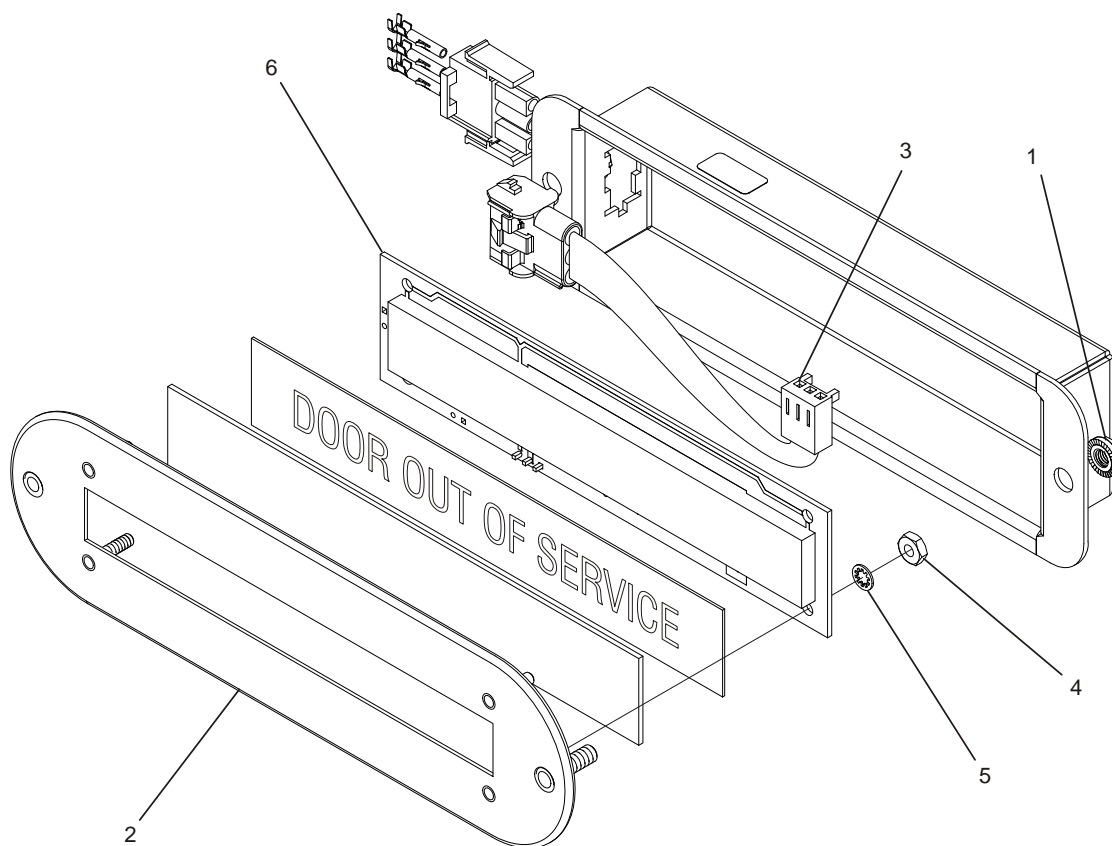

Figure 7-6: Replace Door Out Of Service Lamp
3. Remove two M5 x 0.8 serrated nuts (1, Figure 7-6) from the back of the bezel assembly (2).
4. Disconnect the three-circuit plug (3) from the PC board assembly (6).
5. Remove four 6-32 x 1/4 hex nuts (4) and four split washers (5) from the PC board assembly (6).
6. Install a replacement PC board assembly (6) and attach using four 6-32 x 1/4 hex nuts (4) and four split washers (5).
7. Connect the three-circuit plug (3) from the fixture to the PC board assembly (6).
8. Attach the bezel assembly (2) to the fixture using two M5 x 0.8 serrated nuts (1).